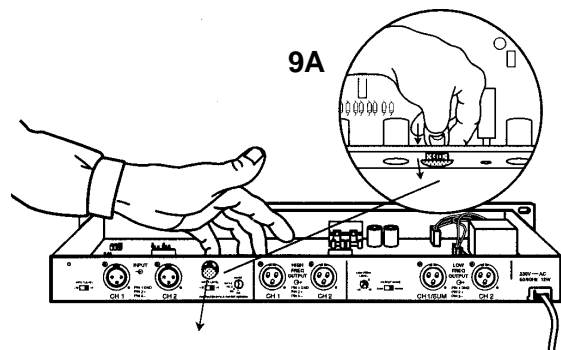

Figure 9. Plastic plug removal
D. Find the plastic plug in the controller's rear panel (**Figure 9**). Pinch the top lock tab and push the plug partially out (**Figure 9A**). Release the tab and pull the plug completely out.